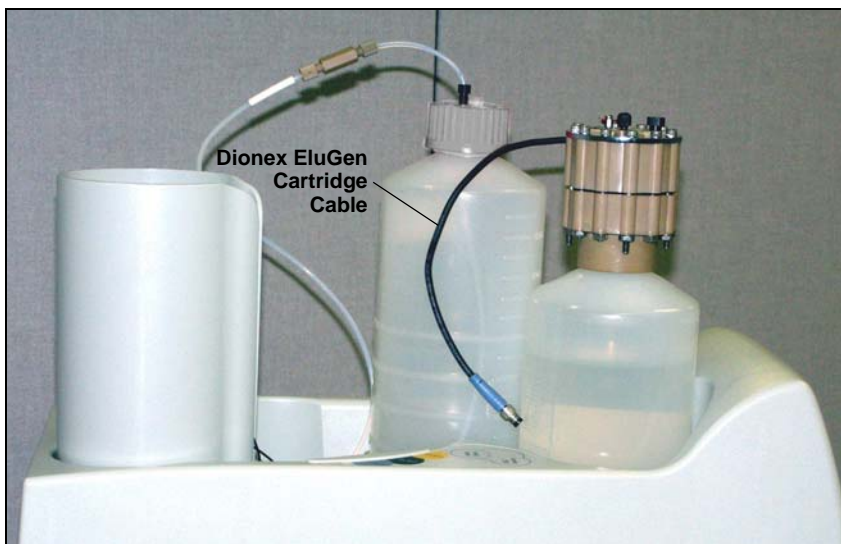

Figure 5-51. Dionex EluGen Cartridge in Service Area
12. Set the Dionex EluGen cartridge in the service area on top of the Dionex ICS-2100 and orient it with the cable toward the EGC holder (see Figure 5-51).